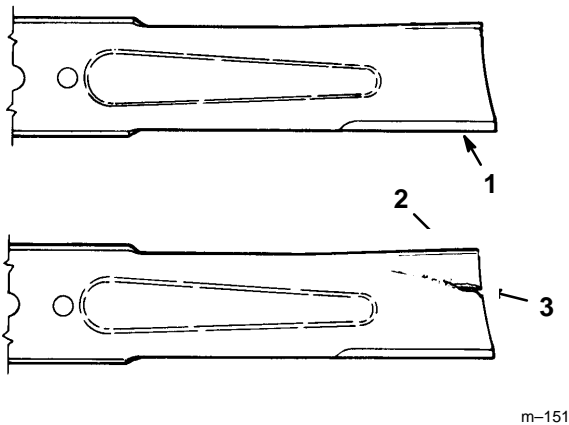

Figure 10
1. Inspect the cutting edges (Fig 10). If the edges are not sharp or have nicks, remove and sharpen the blades. Refer to Sharpening the Blades on page 11.
2. Inspect the blades, especially the curved area (Fig. 10). If you notice any damage, wear, or a slot forming in this area (item 3 in Fig. 10), immediately install a new blade.